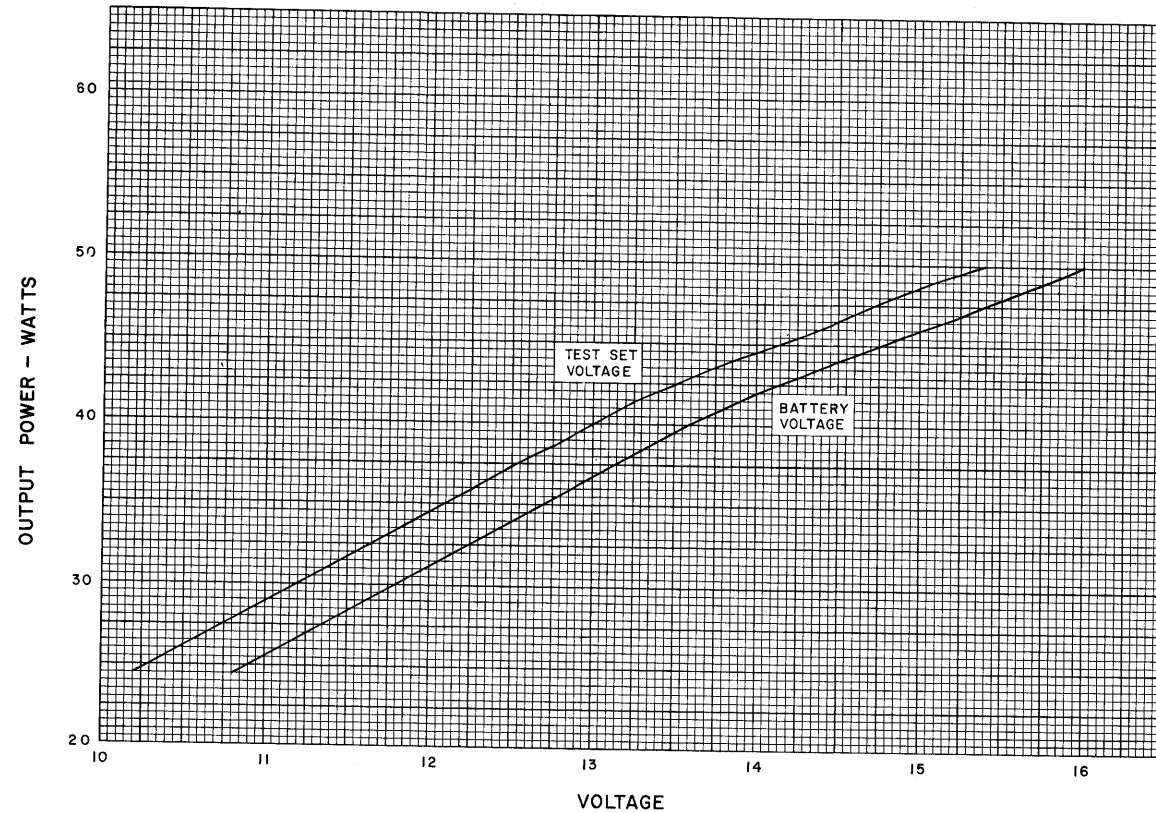

Figure 6 - 406-450 MHz Power Output Setting Chart
2. Maintain the radio at 30°C (+5°C, -15°C) offset the operating frequency as a function of actual temperature, by the amount shown in Figure 6.